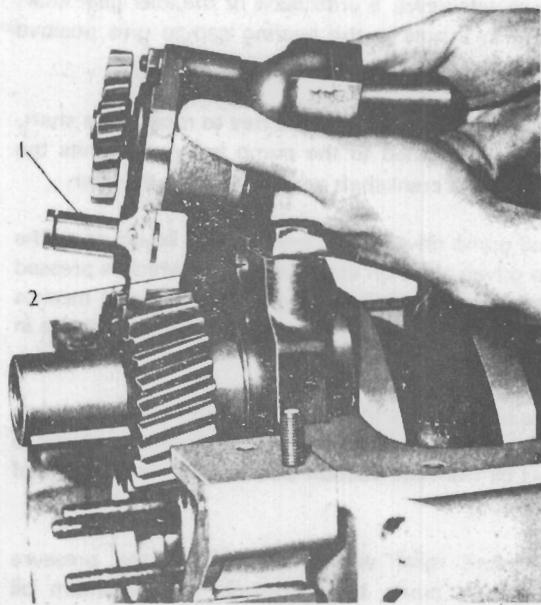

Fig. L.6.
8. Remove the pump. See Fig. L.6.